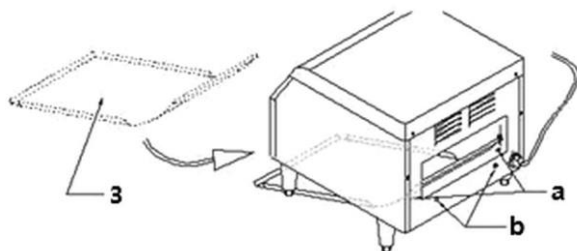

Fig. 2
4. Secure the toast dispensing tray (3, Fig. 2) by first inserting the rounded edge under the appliance at the rear and then hanging it on the hooks (a) located on the lower edge of the rear opening of the appliance.
5. Hang the collection catch tray (8) (with appropriate cut-outs at the front) on the pins provided for (b, Fig. 2), below the rear opening of the appliance.